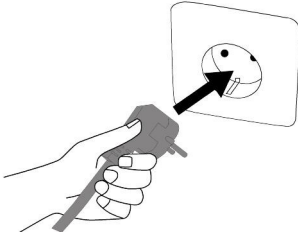
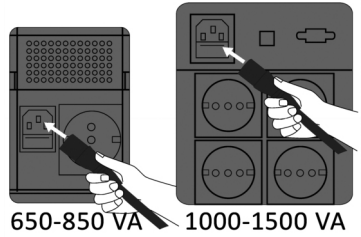

Figure 3.1
Figure 3.2
- a. Plug the patch cord to mains voltage socket first (Figure 3.1) and then to input socket (Figure 3.2).